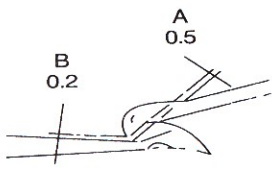

Fig. 16
4. Upper Looper and Lower Lopper Fig.16